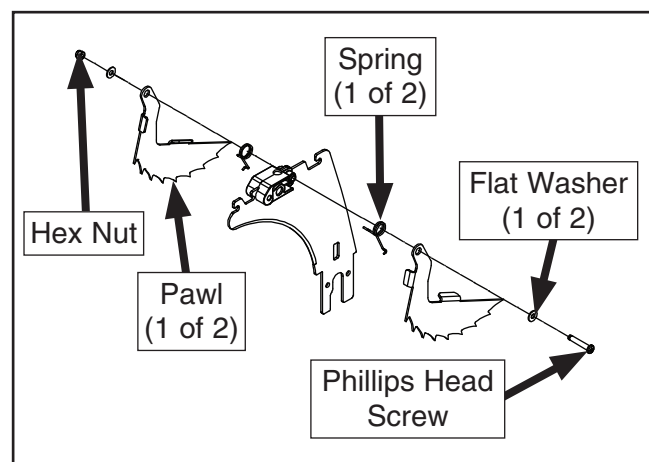

Figure 26. Pawl and pawl screw fasteners.
2. Remove (1) Phillips head screw, (2) flat washers, and (1) hex nut that secure pawls to spreader (see **Figure 26**), then remove pawls and pawl springs.